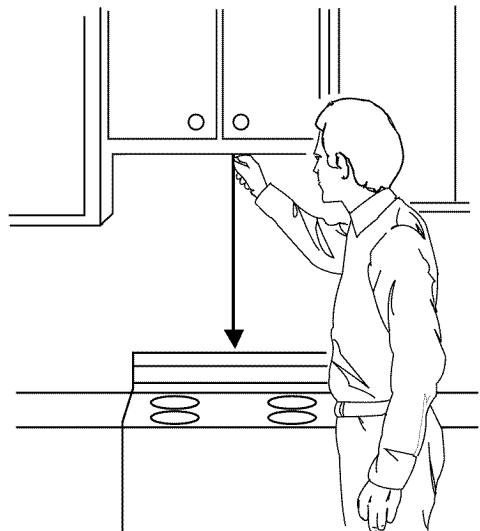

Figure 20
1. Using a plumb line and (metal) measuring tape, find and mark the vertical center line on the back wall, as in Figure 20.